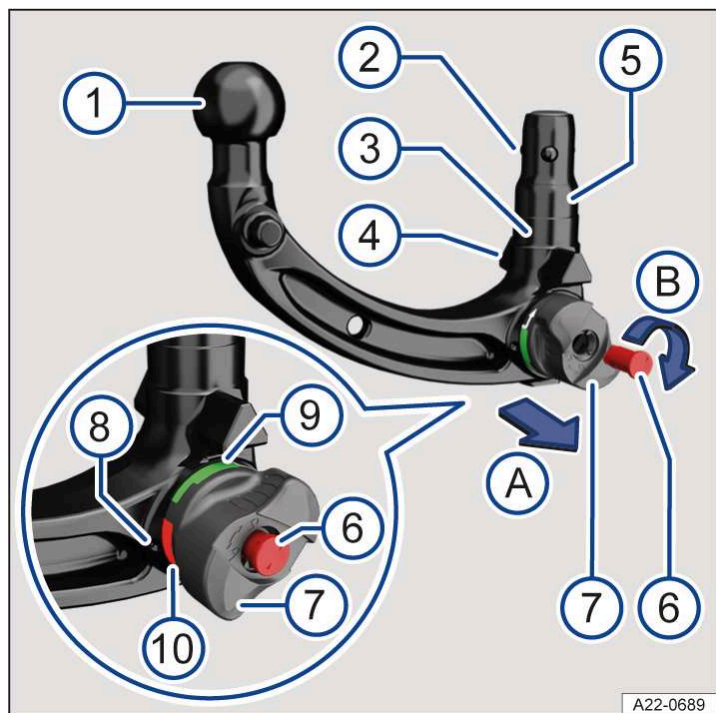

Fig. 1 Overview: removable ball coupling.
1. Before using the removable ball coupling for the first time, make a note of the number stamped on the key → Fig. 1 ⑥. This can be used if you need to acquire a replacement key.
4. Check that the mounting, handwheel → Fig. 1 (8), shank (5) and retaining balls (2) of the ball coupling are all clean and not damaged → !. Clean if necessary.